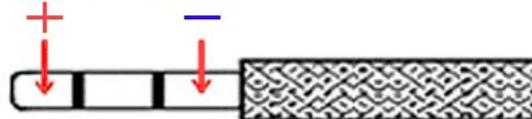

Fig.5. The polarity of jackplug of power cable.
4. Insert the jackplug of cable of AC/DC adapter into connector "+12V DC" (5). The AMT-07 is operationally ready. Fig.5.